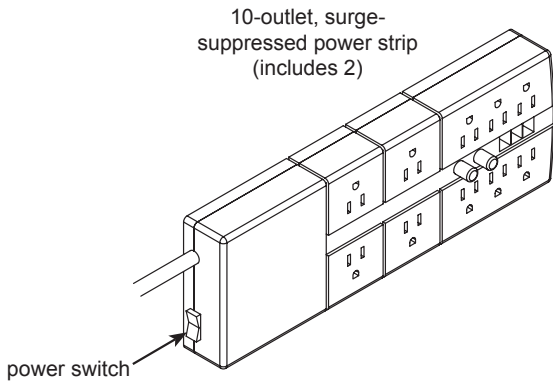

Figure 4D
2. With the power strips unplugged and switched OFF, Plug the chargers into the power strips. Some wall chargers may need to be staggered depending on their size. **Figure 4D-E.**